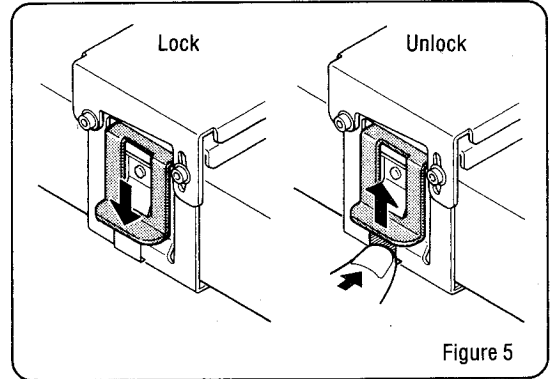

Figure 5
- ⑤ Insert the unit to the bracket and turn the levers downwards as in Figure 5.